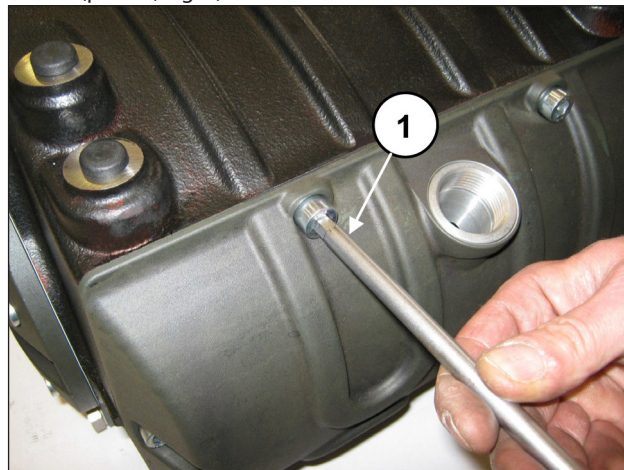

Fig. 2
Fully empty the oil from the pump, then disassemble the casing cover (and relative O-ring), unscrewing the 6 M10 screws (pos. ①, Fig. 2).